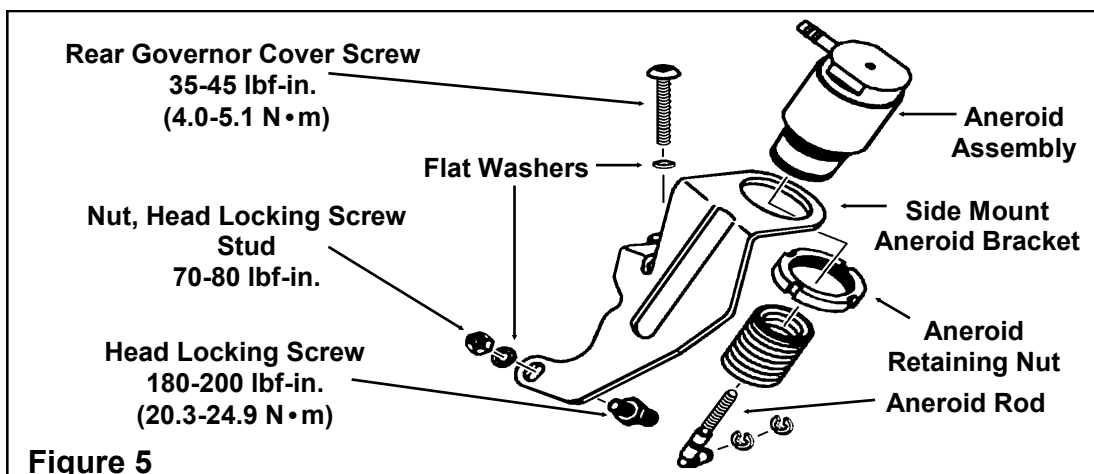

Figure 5
6. Install the aneroid and mounting bracket assembly on the pump. For a top mounting bracket (Figure 4), tighten the screws to 35-45 lbf-in. (4.0-5.1 N•m). For a side mounted bracket like (Figure 5), tighten the rear governor cover screw to 35-45 lbf-in. (4.0-5.1 N•m) and tighten the nut on the head locking screw stud to 70-80 lbf-in. (7.9-9.0 N•m).
Note: There are several different styles of aneroid brackets in use. Figure 4 shows a typical top mounted aneroid bracket and Figure 5 shows a typical side mounted aneroid bracket.